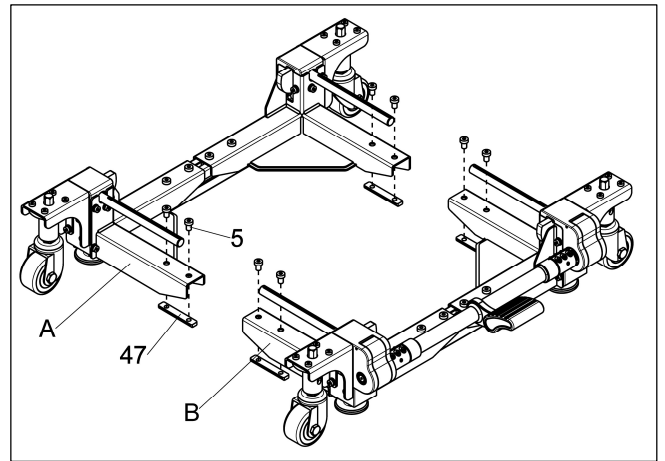

Fig.14
b. Pre-lock fastener “5” and locking block “47” onto the rear corner bracket assembly “A” and the front corner bracket assembly “B”. (see **Fig.14**)